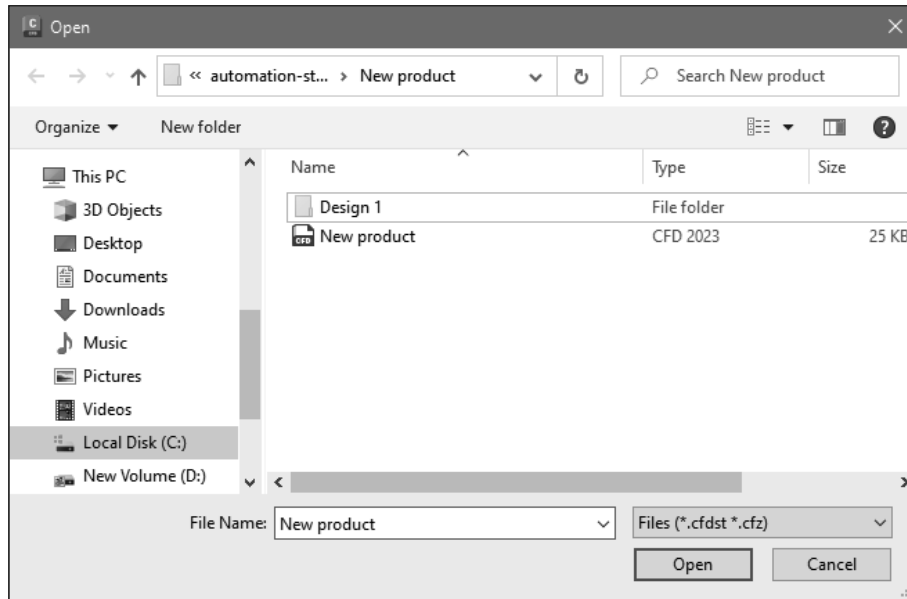

Figure-13. Open dialog box
- Click on the **Open** button from **Launch** panel to open an existing design study. The **Open** dialog box will be displayed; refer to Figure-13.